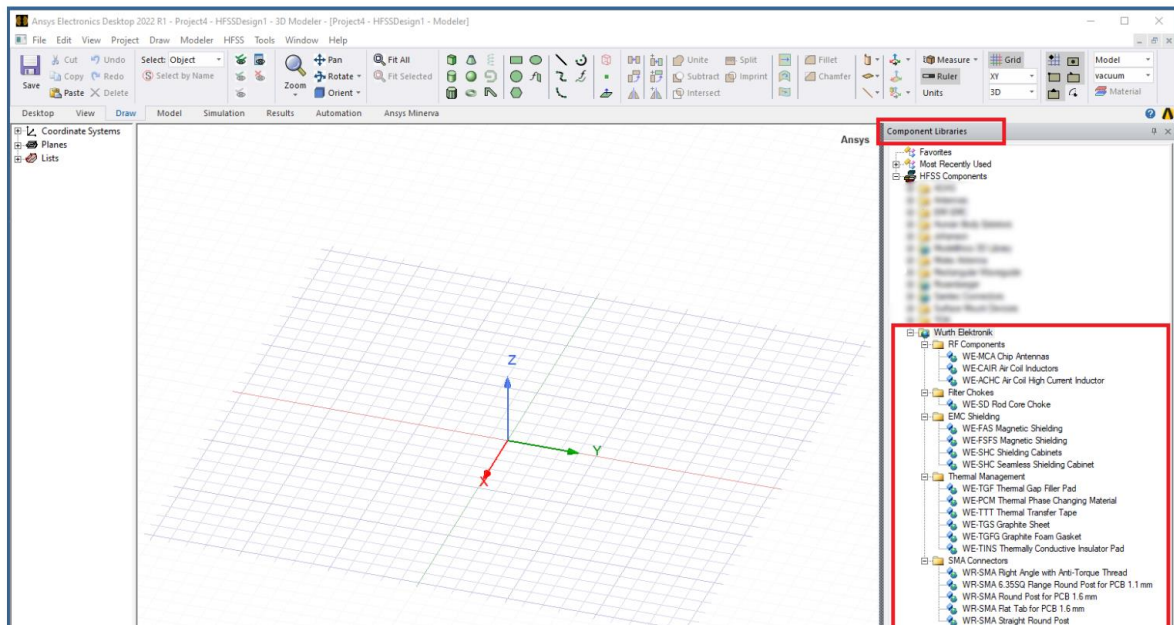

Figure 8: Open in HFSS.
- From the Ansys Electronics Desktop library, open the Würth Elektronik folder (Figure 8)